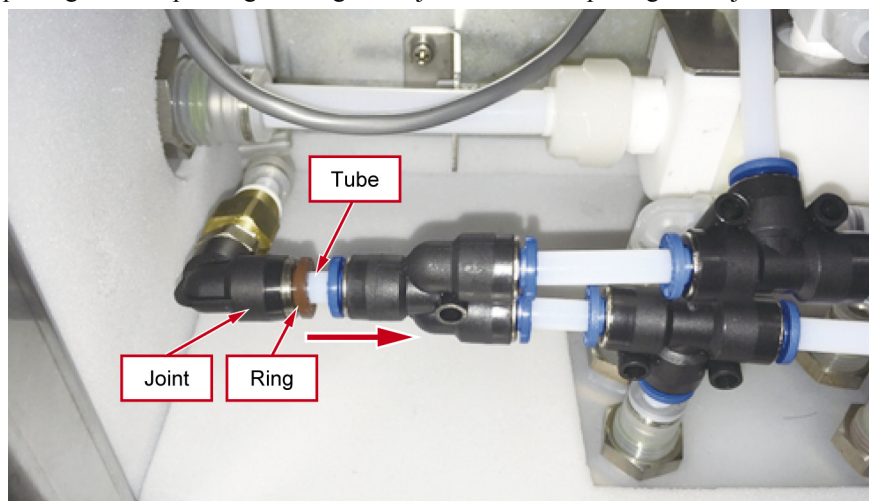

Fig. 7-8 Pull out the tube from the joint
7. Pull the air tube from the joint in the lower left of the inside of the extraction unit as shown in Fig. 7-8. The air tube is removed by pulling it while pushing the ring at the joint insertion opening to the joint side.
7. Connect the air tube to the joint in the lower left of the inside of the extraction unit as shown in Fig. 7-8. Insert until it will go no further.